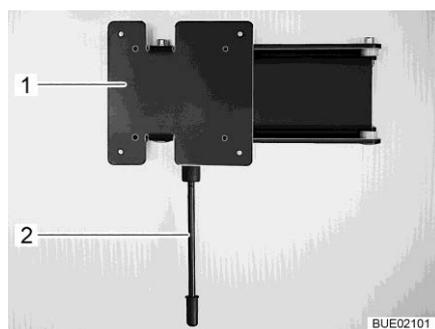

Fig. 107 Wall holder
- Pull down the release lever (Fig. 107,1) and turn the holder (Fig. 107,2) with the flat screen to the desired position.